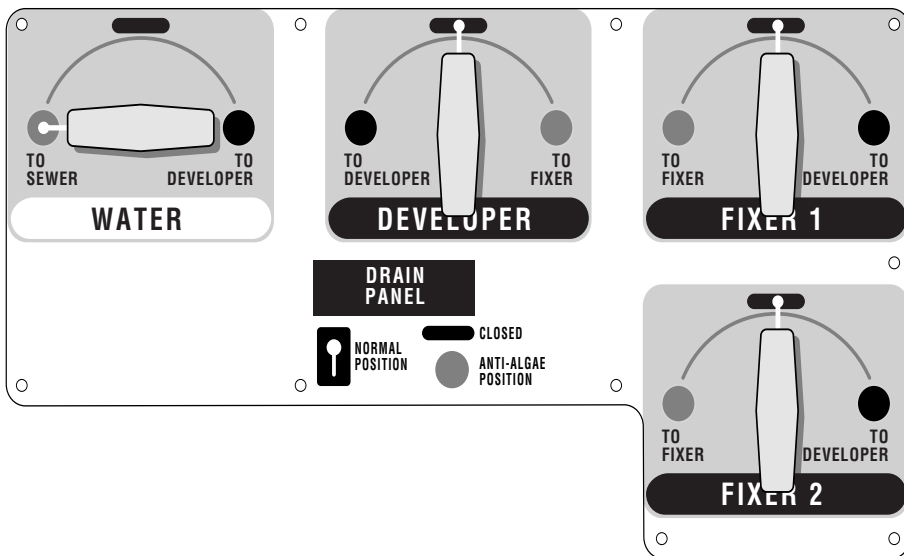

Fig.10
- drain taps for the selective draining of the process chemicals, wash water and cleaning products (see drawing of three-way tap fig. 10).